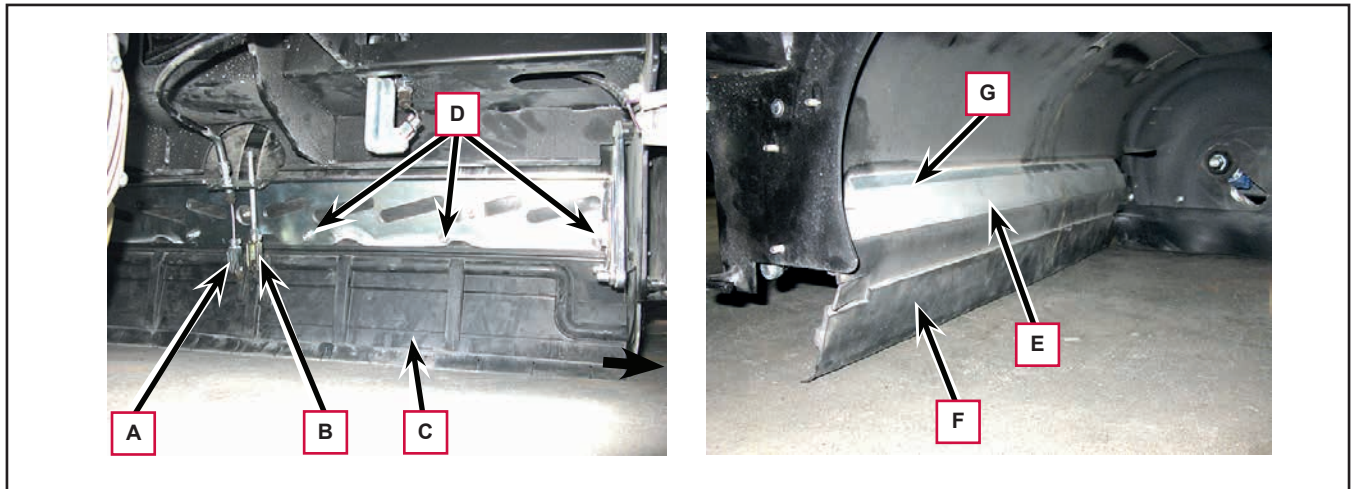

Figure 14
6. Release the clips (A, Figure 14) and (B) and disconnect the corresponding tie rods from the front skirt (C).
7. Working from the two sides of the machine, unscrew the nuts (D).
8. Working inside the main broom compartment, remove the strap (E), the front skirt (F) and the rubber cowling (G).
9. Install the front skirt (F) and the other removed components in the reverse order of removal.